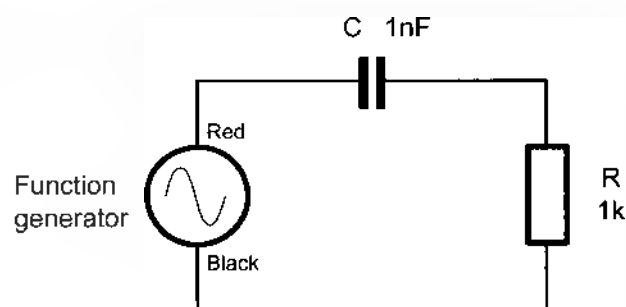

Figure 2
14. Wire the circuit of Figure 2.